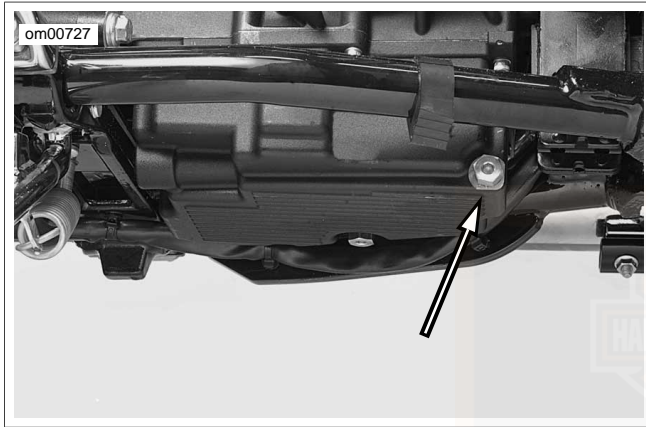

Figure 23. Engine Oil Drain Plug (oil pan under transmission)
3. See Figure 23. Remove the engine oil drain plug with o-ring. Allow oil to completely drain into a suitable container.
6. See Figure 23. Install oil tank drain plug.